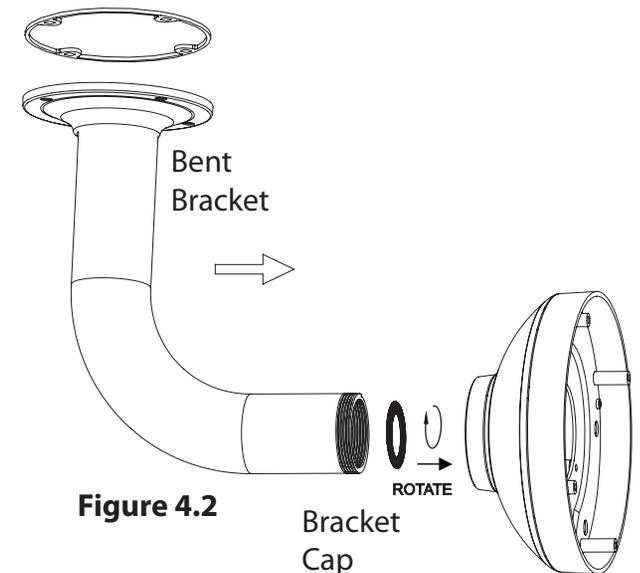

Figure 4.2
5. Place the rubber seal between the bent bracket and the ceiling to ensure a waterproof seal between the ceiling and the bracket. (Figure 4.2)